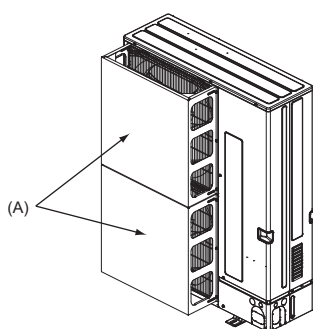

Fig. 2-4
(2) Install an optional air protect guide if the unit is installed in a location where strong winds from a typhoon, etc. may directly enter the air outlet. (Fig. 2-4)